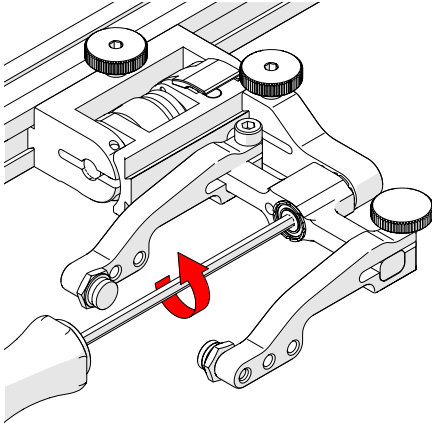

Fig. 59 - Unscrew yoke pivot screw
1. Unscrew the yoke from the swing arm (Fig. 59).